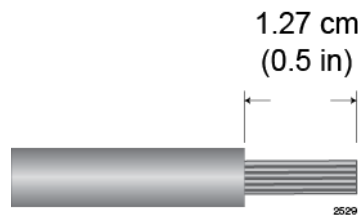

Figure 141. Stripping the Power Wires
1. Prepare adequate lengths of two stranded 8 AWG power wires by stripping them as shown in Figure 141.